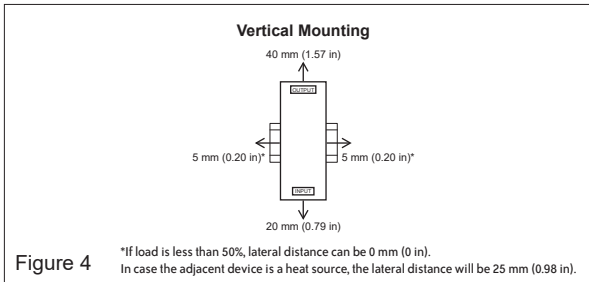

Figure 4
- To guarantee sufficient convection cooling, please keep a distance of 40 mm [1.57 in] above and 20 mm [0.79 in] below the device as well as a lateral distance of 5 mm [0.20 in] to other units. If load is less than 50%, lateral distance can be 0 mm [0 in]. In case the adjacent device is a heat source, the lateral distance will be 25 mm [0.98 in]. See Fig 4.